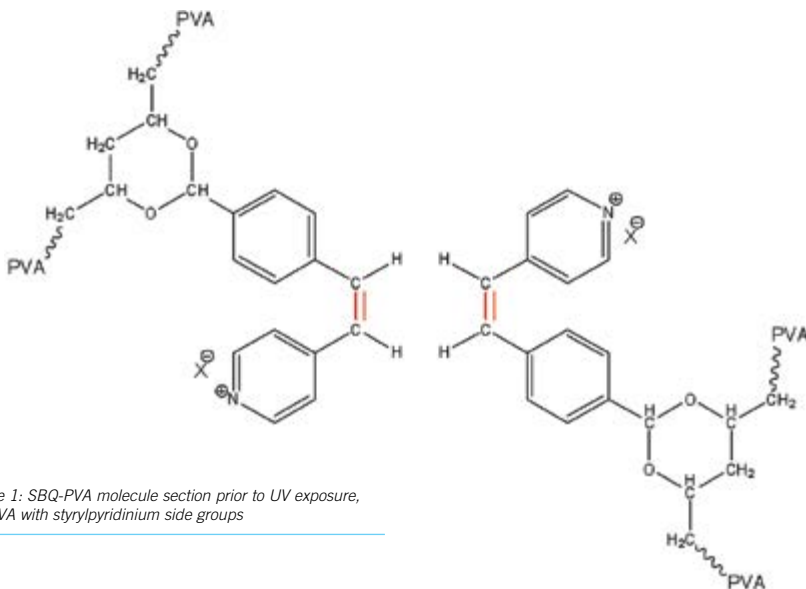

Figure 1: SBQ-PVA molecule section prior to UV exposure, i.e. PVA with styrylpyridinium side groups
In the course of the 1980s, a new technology from Japan edged its way into the screen-printing market. This was the technology of single-component emulsions based on SBQ. The abbreviation SBQ is derived from the product name 'Stilbenium quarternised' and specifically means that a water-soluble, UV light-sensitive stilbene group is chemically bonded with the polyvinyl alcohol (PVA) contained in emulsions (see Figure 1), so that for light sensitising a second component, such as diazo, is no longer needed. Because of it being a single-component product, the SBQ
In the course of these developments in medicine, it was discovered that the rapid cross-linking of the water-soluble SBQ-PVA and, thus, the insolubility on exposure to UV light, was also suitable for other applications, in particular for screen-printing (6), in which the UV cross-linking of PVA had been in use for a long time. In contrast to the diazo-sensitized emulsions, the SBQ component is not mixed prior to use, but chemically bonded to the PVA (see Figure 1) in the emulsion during manufacturing, so that a one-component emulsion is formed. A variety of emulsions can be produced using an SBQ-PVA base; apart from screen-printing emulsions, there are also screen-printing films, textile printing emulsions for flat and rotary printing, laminating solutions (for screen-printing films), and screen fillers, etc.
The production of SBQ-PVA is not difficult; production possibilities have been frequently described (7). The SBQ-PVA generated (see Figure 1) is highly UV reactive, and definitely more reactive than diazo-sensitized emulsions. For SBQ products, it does not matter, whether mercury UV lamps doped with iron or gallium compounds are used and our own investigations have shown the relevant differences to be marginal.
The stilbene group contained in SBQ-PVA can be modified in principle with other chemical groups and the anion of the pyridinium molecules (see Figure 1) is interchangeable, so that many more variations for one-component emulsions could be envisaged. Due to the easy availability and registration of the styrylpyridinium molecule, we have mainly confined ourselves so far to this species, but it is conceivable that other versions could be developed with a specific property profile and marketed in future. ■